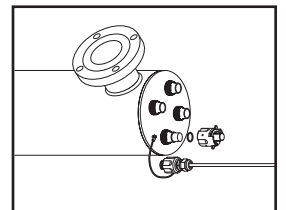
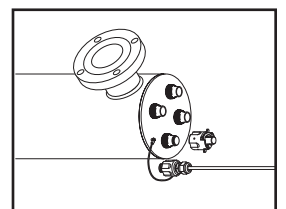

FIGURE 3C
FIGURE 3D
- Clean the sleeve as outlined in above, or replace with a new sleeve. Reinstall the quartz sleeve in the reverse order. To install the sleeves, carefully insert the sleeves into the reactor chamber (do not drop) and push the sleeves (Figure 3c), to the opposite end of the chamber making sure the sleeves are inserted into the corresponding holes on the opposite end of the chamber. Install a wetted o-ring (Part number 410867) onto both ends of the sleeves until they are positioned against the chamfered seat (Figure 3d).